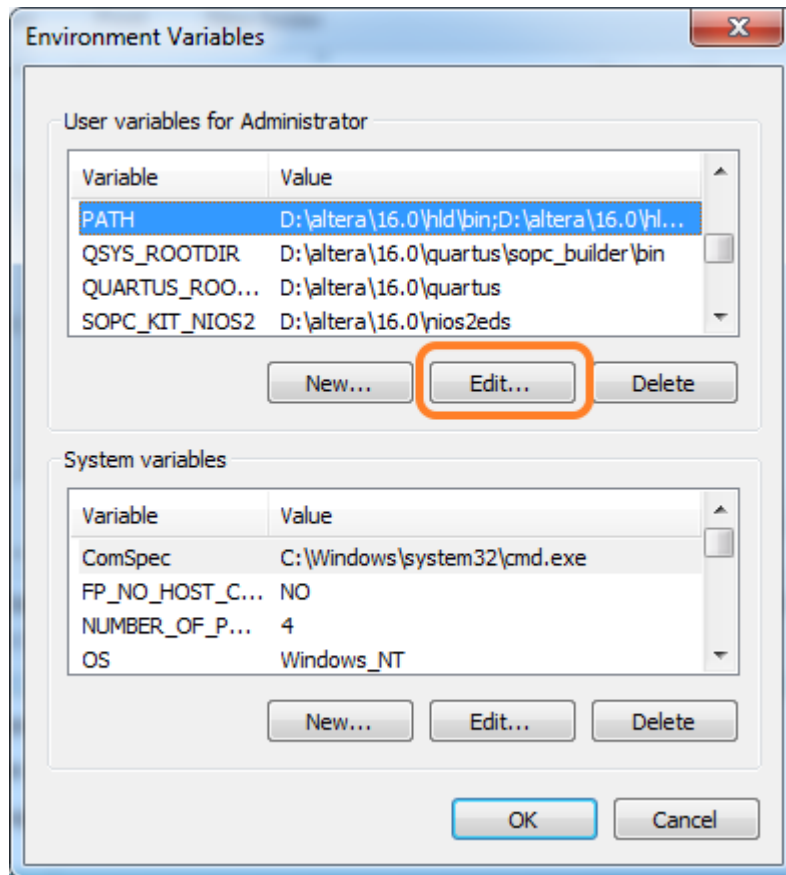

Figure 2-5 Select “Path” and click “Edit” bottom
4. In the Environment Variables window (as shown below), highlight the **Path** variable in the Systems Variable section and click the **Edit** button as shown in **Figure 2-5**.